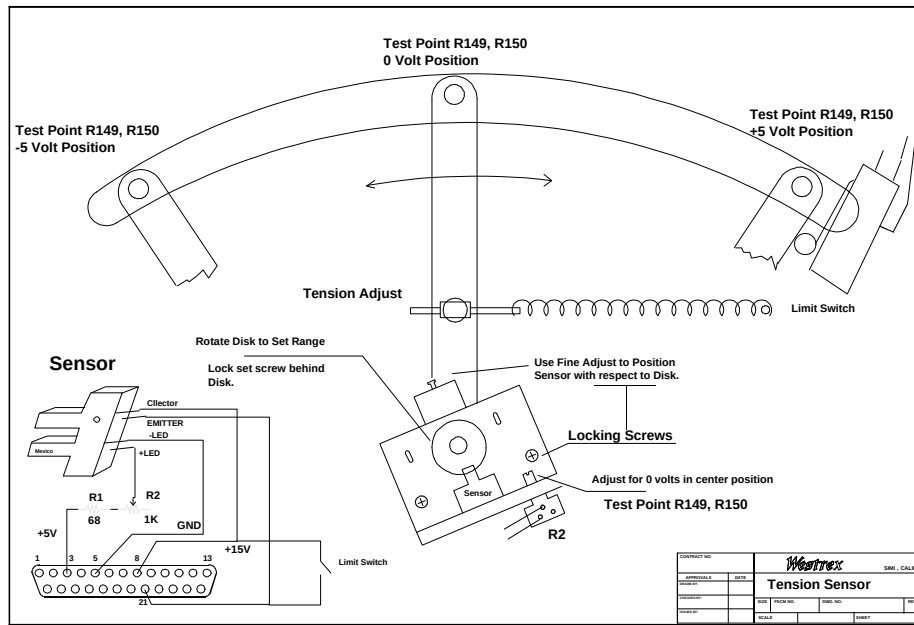

Figure 6.2: Tension Sensor Adjustment for Reeling System.
4. Loosen the locking screws so that the sensor assembly can be moved with respect to the disk. (See Figure 6.2.)